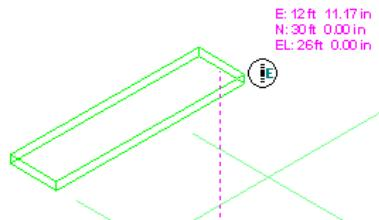

Figure 19: First Cableway Section in East Direction
15. Position the cursor in the east E direction and click to define the end point to place **8 ft** cableway, as shown in Figure 19.